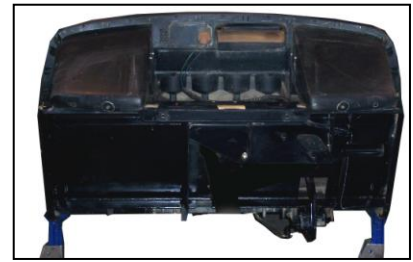

Figure 1
4. Completely disassemble the front of the golf cart as shown in Figure 1. Save the stock leaf spring bolts & mounting plates, & hubs for reinstallation.